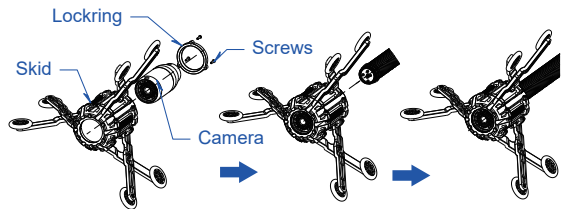

Figure 14. 120 Roller skid
- 2) Install 120 Roller Skid. (See Figure 14)